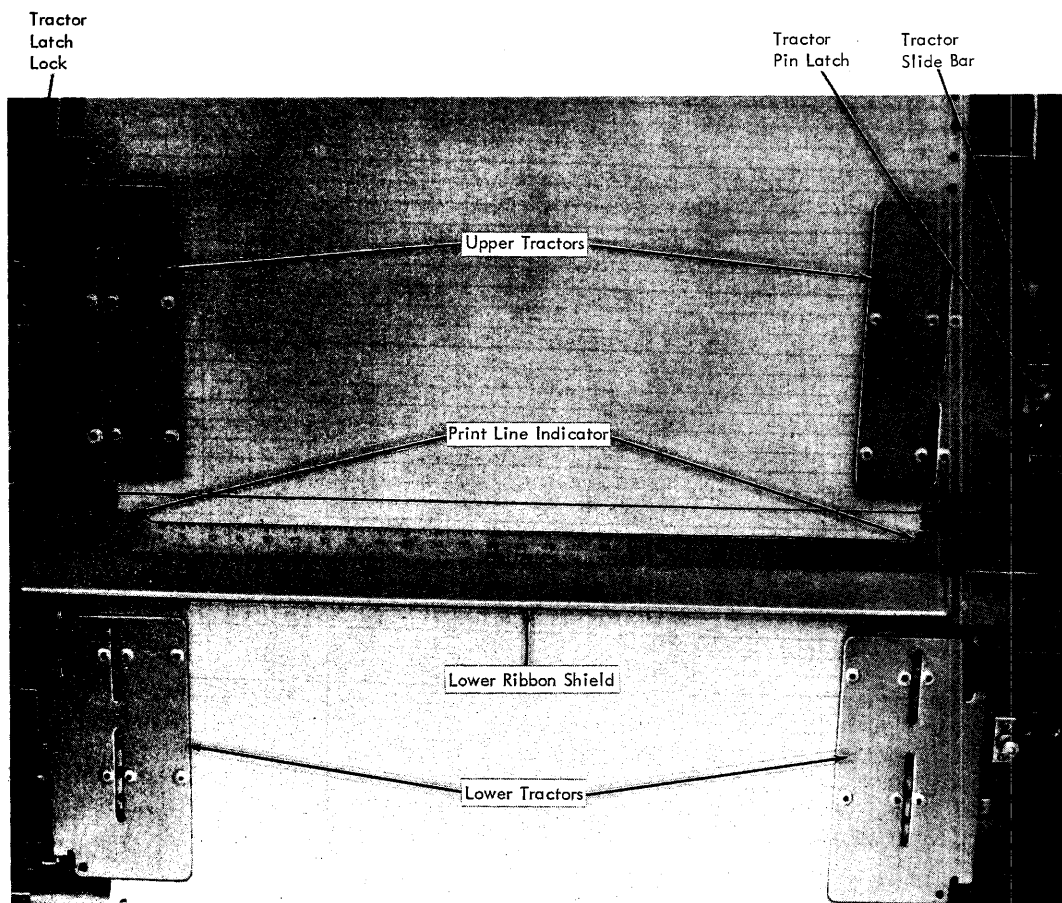

Figure 24. Forms Feeding
Forms Tractors - Marginally punched continuous forms are fed by two pairs (upper and lower) of forms tractors (Figure 24). The tractors can be positioned laterally to accept forms of various overall widths between 3-1/2 and 18-3/4 inches.
4. Set both the left-hand forms tractors (Figure 24) slightly to the left of the first printing position. Pull the tractor lock up (or down) and slide the tractor until it latches